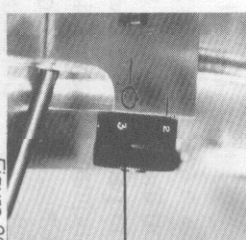

Figure 22
9. To cut the master cuts, push down the locking arm and bring the slide block slightly towards the user. Turn the spacing cam to the #2 position as indicated by the Chicago depth chart (Fig. 22). Push the slide block back against the stop screw and lift the locking arm.